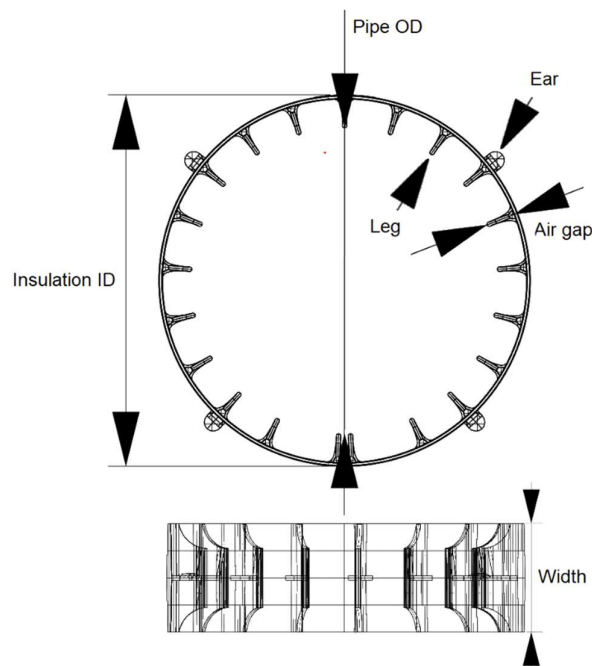

Figure 1 – Dimensions and component naming for ESSGE NCS Spacer Ring HT/LT
The spacer size is determined based on the pipe outer diameter (OD) values commonly available in the market. A single spacer size can typically be applied across a defined range of pipe outer diameters, see Figure 1 for an illustrative example. In applications involving steam-traced pipes, the opening in the spacer may be utilized to accommodate the steam tracing line while maintaining the designed air gap and mechanical stability of the insulation system.
1. Select the correct ring size based on the pipes outer diameter (OD). (pipe OD + 2 × air gap = minimum insulation ID) See table 2 above.
3. For the first meter of pipe: install four (4) rings. One at each pipe end and two with 330 mm spaced in between.
4. For the remaining pipe length, install three (3) rings per meter. Ensure that the maximum distance between adjacent rings does not exceed 400 mm to maintain consistent spacing and prevent the insulation from sagging between spacers.
5. For horizontal piping, orient the ring opening downward. See Figure 1 above.